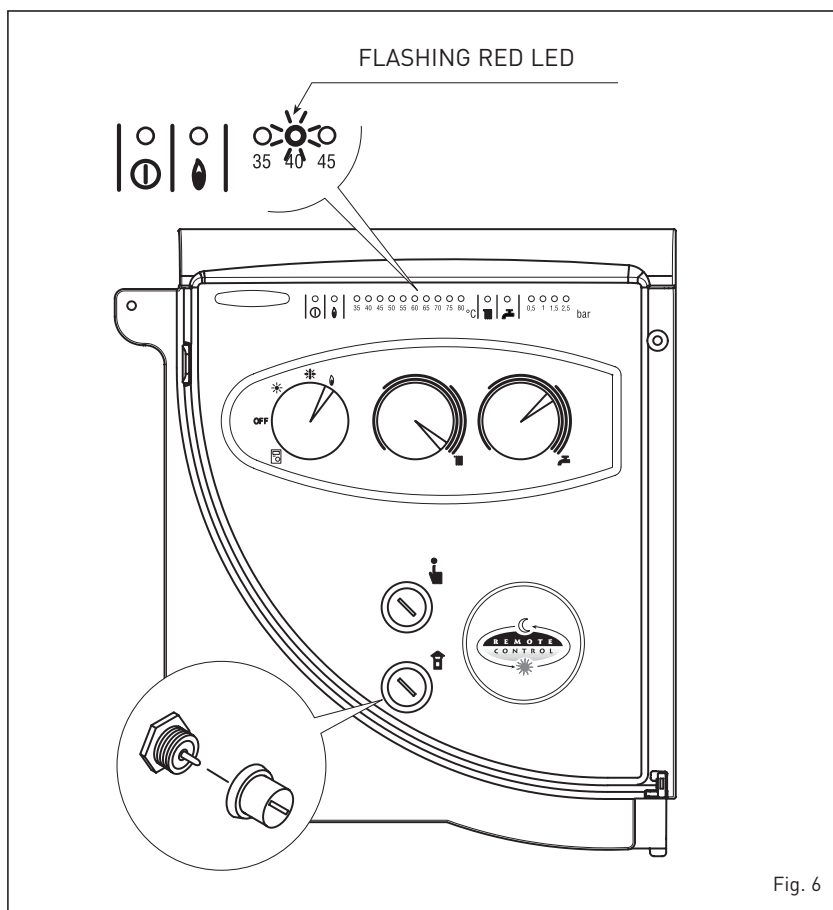

Fig. 6
– **Smoke safety device interception** (fig. 6)